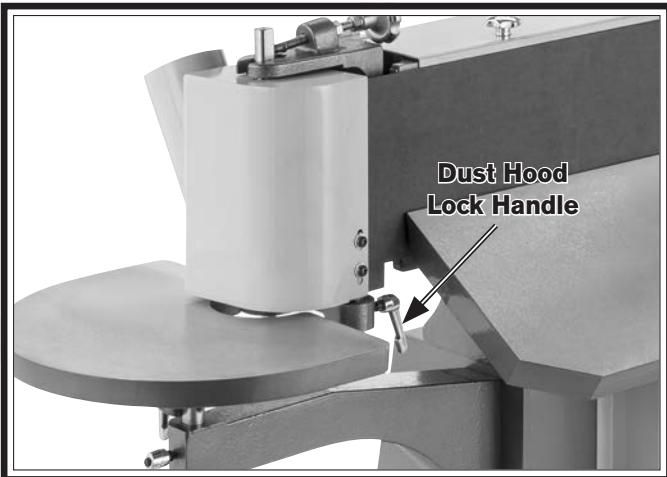

Figure 29. Location of dust hood lock handle.
4. Loosen dust hood lock handle to open end table dust hood (see **Figure 29**).